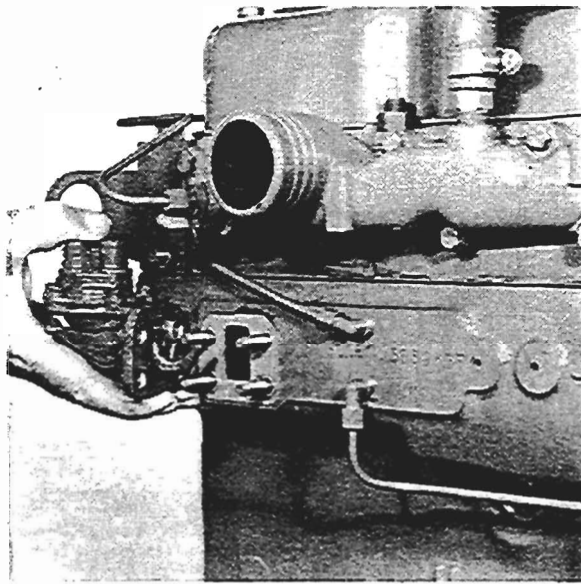

Fig. P6
2. Remove the nuts and washers or setscrews and plates which fasten the fuel lift pump to the cylinder block and remove the pump (see fig. P6).